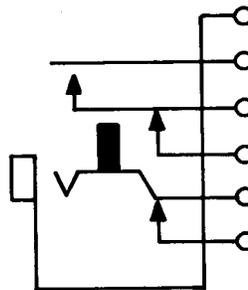

Fig. 13—236A or C Jack
2.13 236A and C: These single-mounted jacks (Fig. 13) are used with 1D, 1E, 153, 209, 241, 305, 327, 328, 347, 373, and 464 plugs. These are heavily insulated jacks. These jacks are mounted with the springs in a vertical plane. The 236C jack replaces the 189 jack.